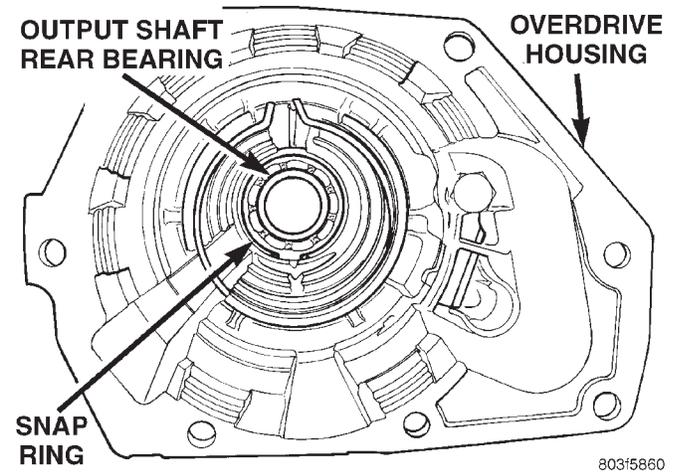

Fig. 63 Output Shaft Rear Bearing
(3) Remove snap ring holding output shaft rear bearing into overdrive housing (Fig. 63).
(4) Using a suitable driver inserted through the rear end of housing, drive bearing from housing.
(1) Place replacement bearing in position in housing.
(2) Using a suitable driver, drive bearing into housing until the snap ring groove is visible.
(3) Install snap ring to hold bearing into housing (Fig. 63).
(4) Install overdrive geartrain into housing.
(5) Install overdrive unit in vehicle.